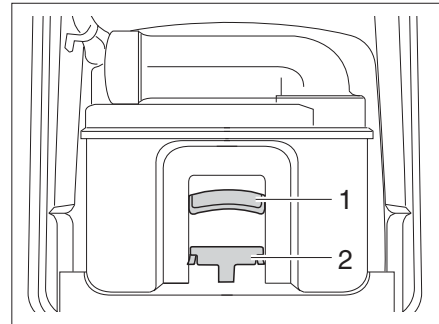

Fig. 300 Thetford cassette
- Pull the retaining clip (Fig. 300,2) forward to unlock the toilet cassette and pull out the cassette at the handle (Fig. 300,1).